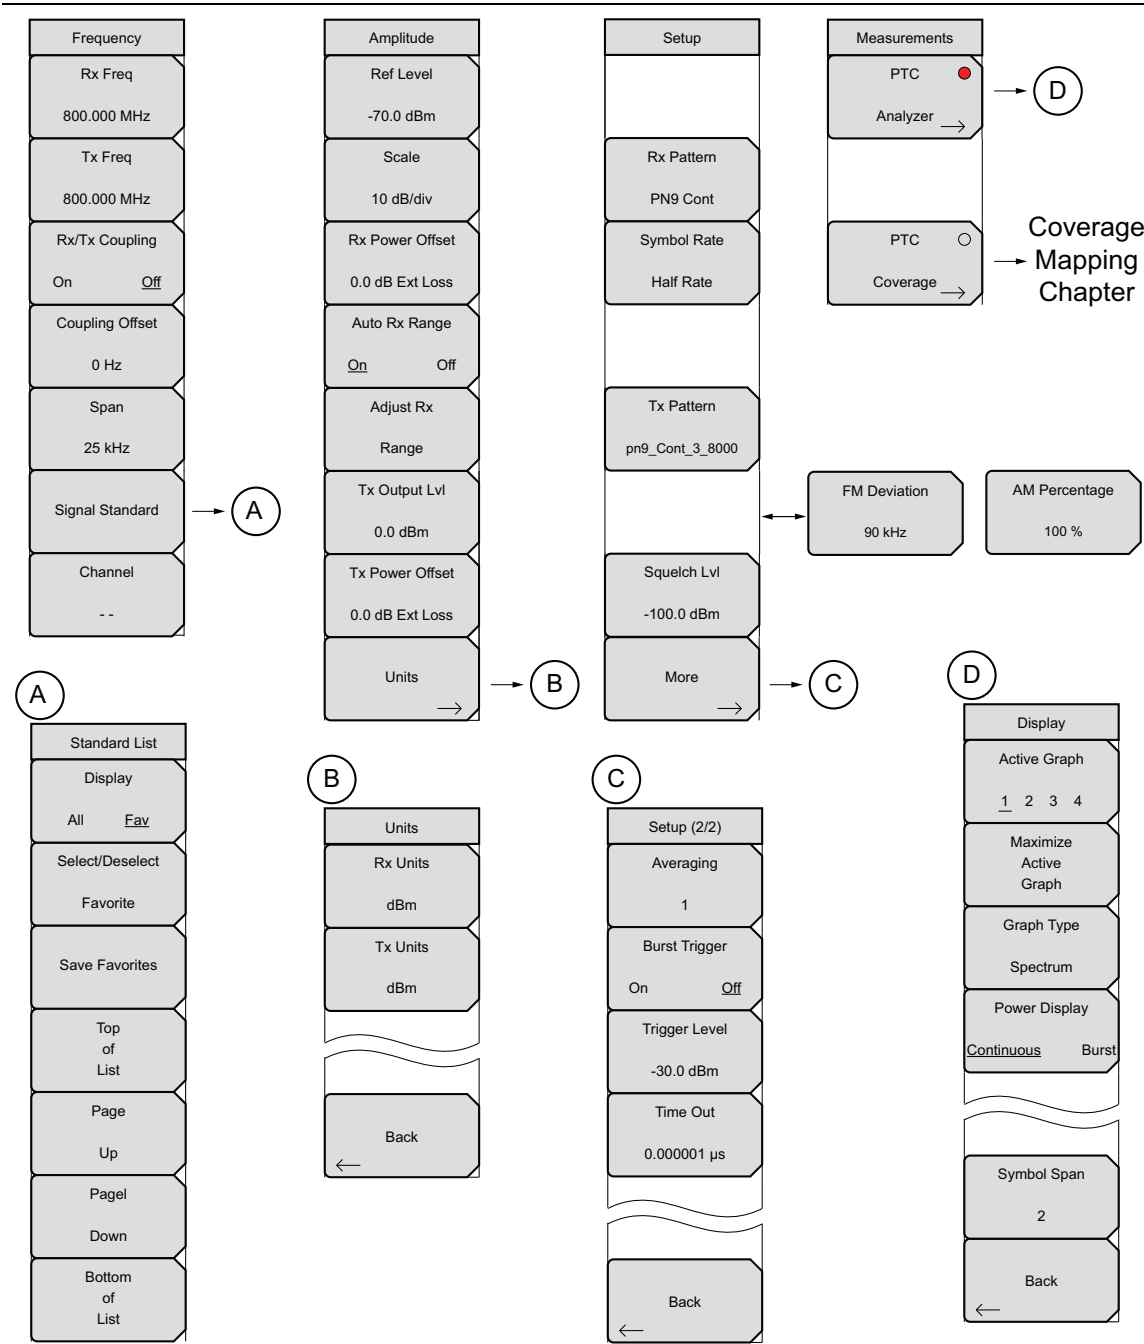

Figure 9-7. PTC-ITCR Analyzer Menu Layout
- a. once if the selected indicator is red (see Figure 9-7 on page 9-10)